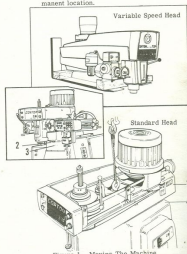

Figure 1. Moving The Machine
4. MOVING THE MACHINE (Figure 1)
Machines with a variable speed head should be moved with a lift truck as shown in the inset in Figure 1. Use wood spacers between the forks and bearing surfaces to prevent damage.
Make sure that head is securely clamped to column with front and rear ram clamping nuts (Figure 1). Place lifting hook in eye bolt on top of ram and move machine to its permanent location.
15. SERIAL NUMBER LOCATION (figure 1)